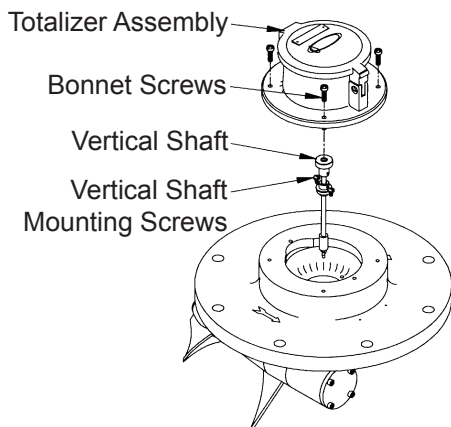
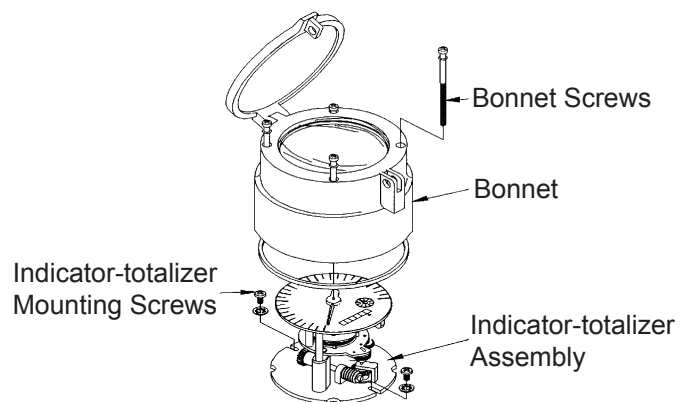

Figure 7: Meter Head Assembly with Totalizer
Figure 8: Indicator-totalizer Assembly
Step 5. Remove the entire totalizer or indicator-totalizer register assembly. Register models with totalizers have four bonnet screws and models with both the indicators and totalizers have four bonnet screws and two register screws (Figure 7 and Figure 8).